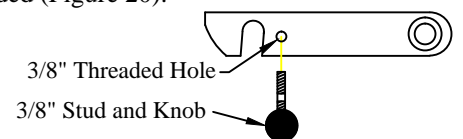

Figure 19: Original Series platform latch knob.
- Install** the two (2) knobs on the platform latches (Original Series only) see (Figure 19).